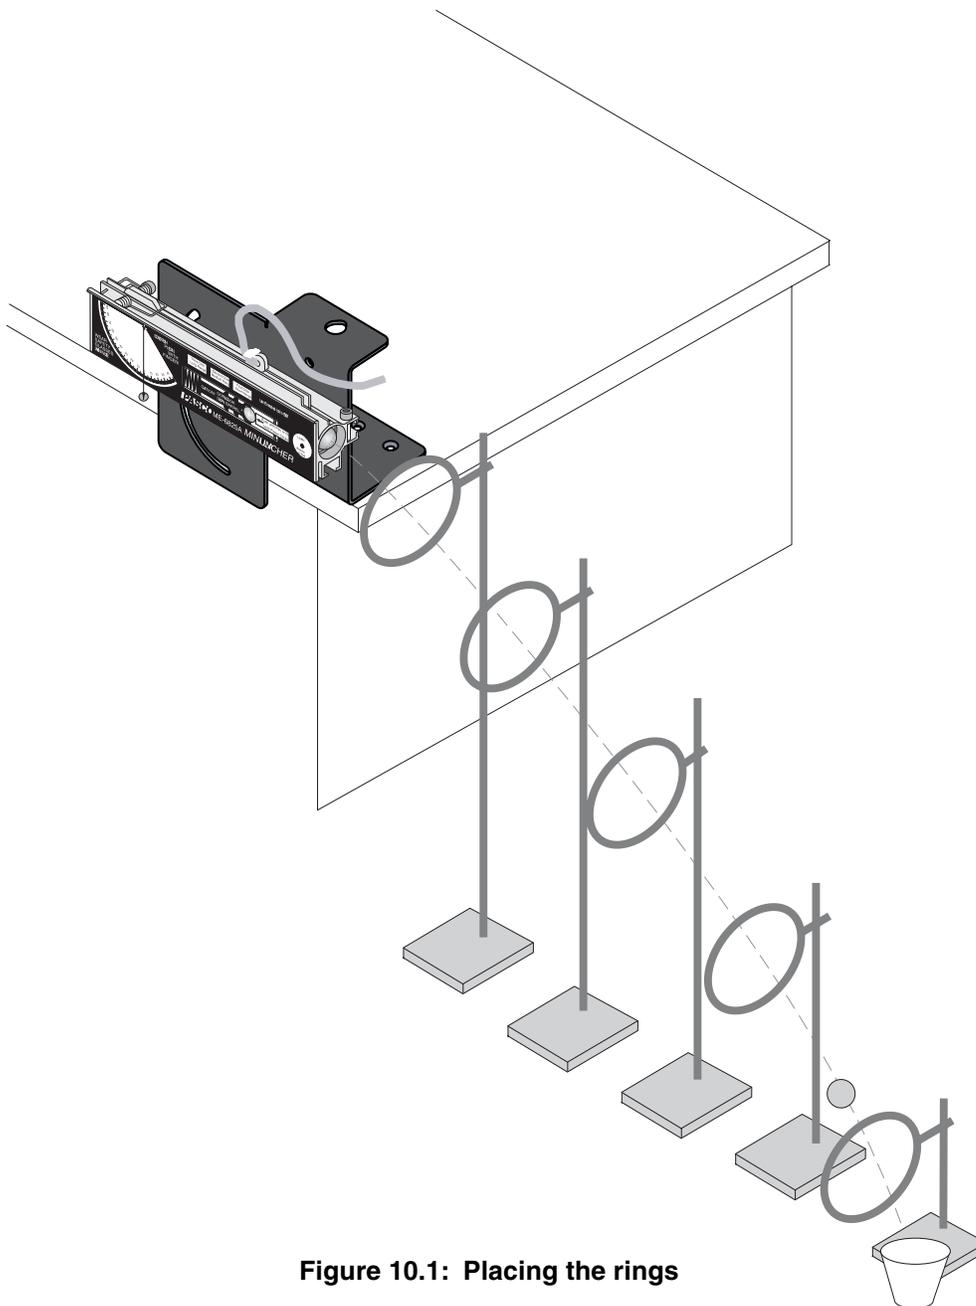

Figure 10.1: Placing the rings
- ③ Lay the 2-meter stick on the floor in a straight line away from the Launcher.
- ④ Measure off each set of  $x$  and  $y$  and place a ring clamp on a stand at each position (See Figure 10.1). If possible it is best to adjust the last two ring stands at an angle from the vertical so the ball will not have to pass through them at an oblique angle. A cup may be placed at the end of the path to catch the ball.
- ⑤ Shoot the ball through the rings.
- ⑥ Ask the class what shape of curve is formed by the rings.